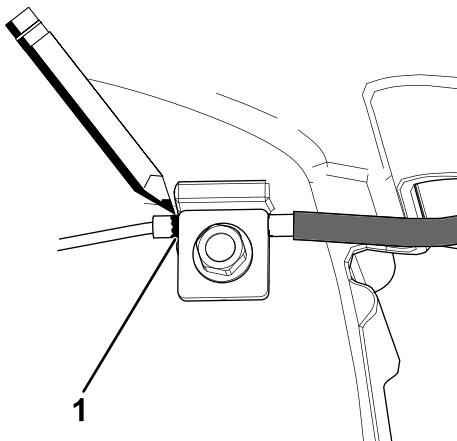

Figure 35
- Mark the brake cable (Figure 35), then adjust the jacket until there is approximately 8 mm (5/16 inch) of slack (Figure 35).